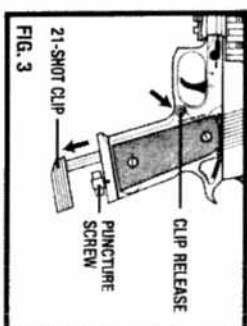

FIG. 3
B. Remove the clip by pushing the clip release button (Fig. 3).